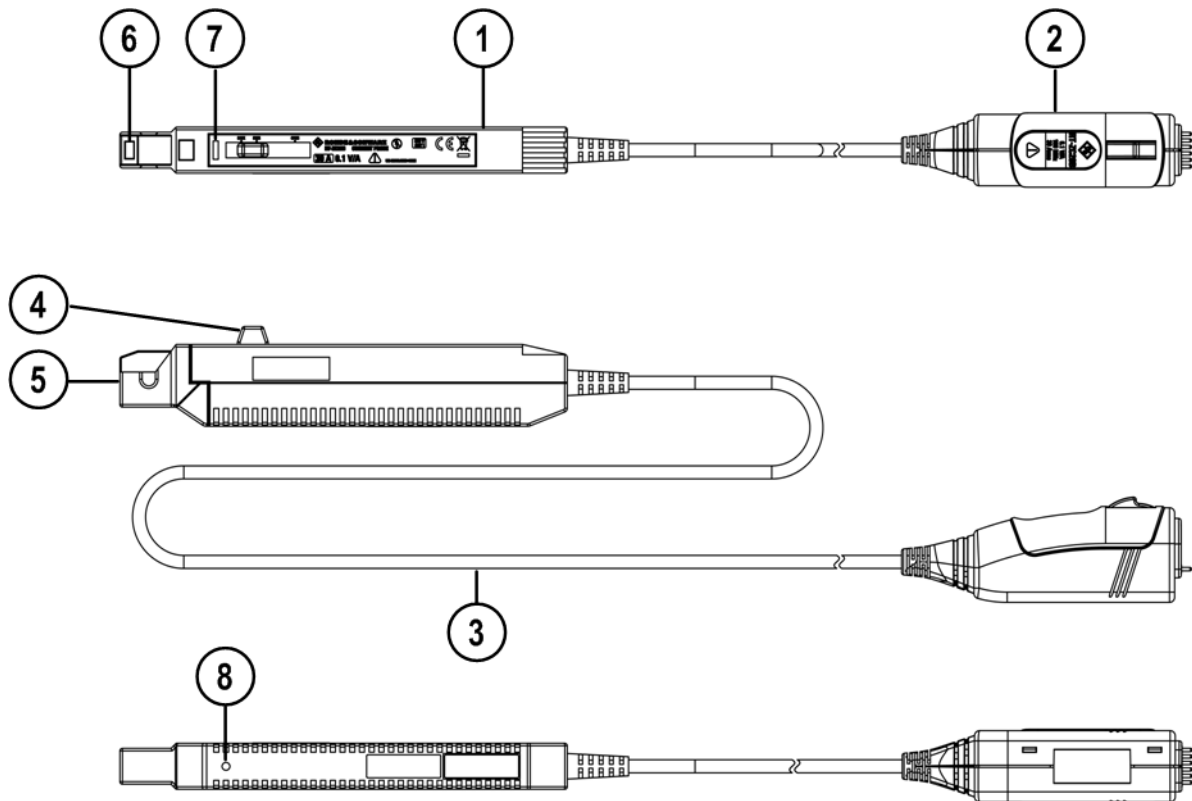

Figure 2-1: Overview of the R&S RT-ZC15B current probe
8. If zero adjustment is not possible, turn the coarse adjustment trimmer to bring the waveform within the range of zero adjustment (see figure 2-1 on page 11).